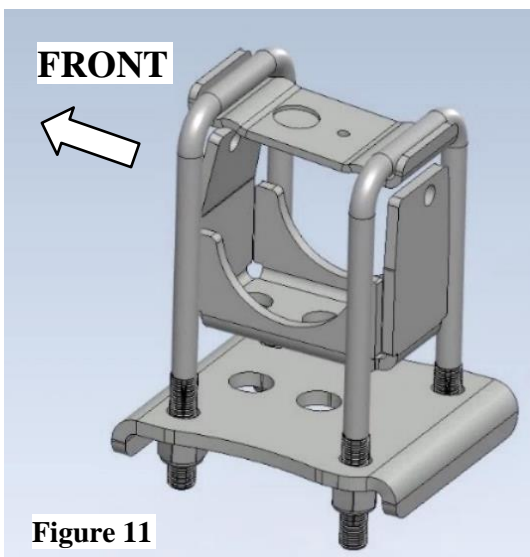

Figure 11
- 6) Connect the axle to the leaf spring using the QA1 axle saddle, upper plate, lower plate, and new u-bolts with the holes of the plates/saddle towards the front. (Figure 11 & 12) Secure using one 9/16" washer and nut per connection. This connection should be torqued in four stages once all connections are made. Torque stages: 26 lb. ft., 52 lb. ft., 74 lb. ft, and finally, 98 lb. ft.